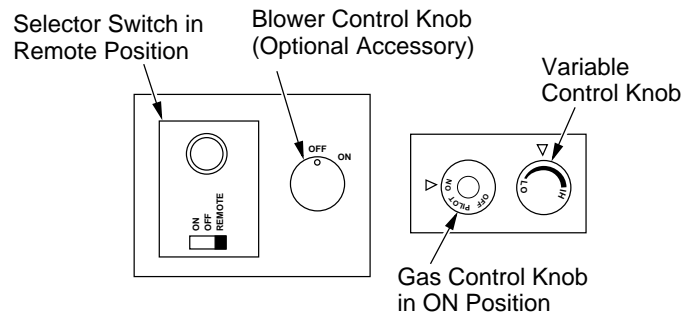

Figure 53 - Setting the Selector Switch, Gas Control Knob, and Variable Control Knob for Remote Operation
1. After lighting, let pilot flame burn for about one minute. Turn gas control knob to ON position. Adjust variable control knob anywhere between HI and LO. Slide the selector switch to the REMOTE position (see Figure 53). **Note:** The burners may light if hand-held remote ON button was on when selector switch was last turned off. You can now turn the burners on and off with the hand-held remote control unit.